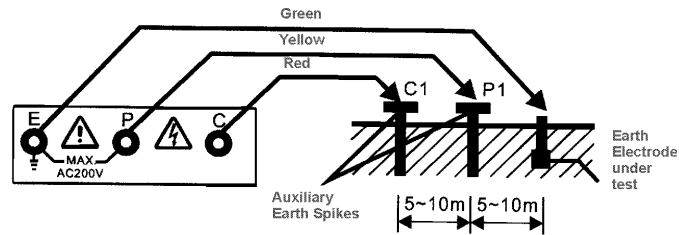

Fig. 1
- (1) Connect green, yellow and red test leads to instrument terminals E, P and C with auxiliary earth spikes P1, C1 inserted into earth "IN A STRAIGHT LINE". (Fig. 1)
- (2) Rotate the function switch to the proper range, then press the push-button to test and take the reading.
- (6) Since the measuring current is as low as 2 mA, the earth leakage breaker (ELCB) does not trip even if the earth side of the commercial power supply with an ELCB is used.
* Follow the proper connection as shown in Fig. 1. The LED (red) indicator will be lit. This proves, that a correct current circulation is under its operation.